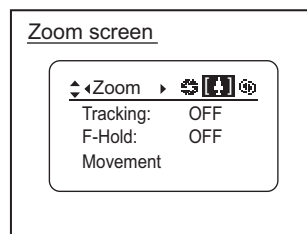

Fig1-7
5. Zoom screen [Icon] (See Fig. 1-7 below)